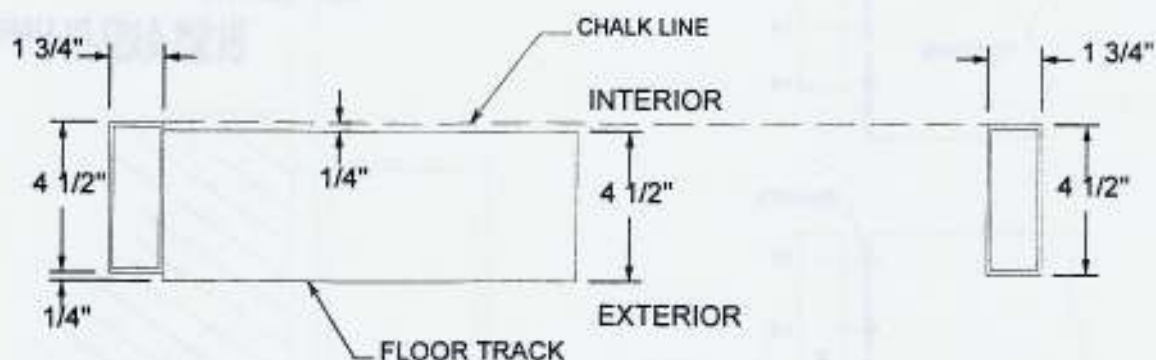

Figure 8
1. Snap a chalk line on the floor from jamb to jamb (See Figure 8) on the interior side of the building. Note the dimensions shown are for a full open, not a pocketed unit.